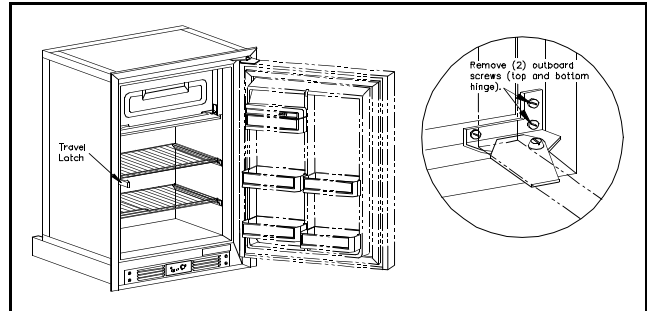
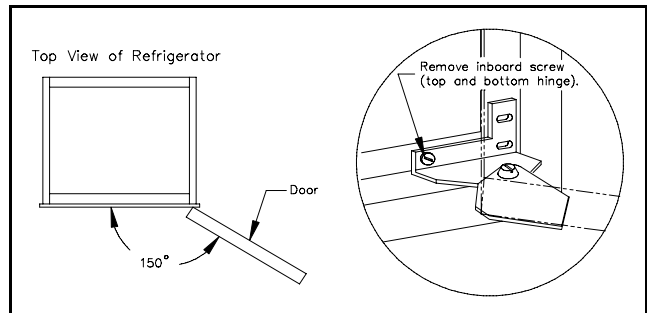

Figure 7
Figure 8
2. Remove the travel latch and 8 plastic hole covers from the mounting flange. Retain all parts for re-installation. With the door opened 90 degrees, remove the two outboard screws from both the top and bottom hinge brackets of the door. (See Figure 7). Next, open the door to almost completely open. Remove the remaining inboard screw from the top hinge bracket. (See Figure 8).
The power converter or solid state battery charger shown in Figure 8 is an essential item for battery-operated systems.